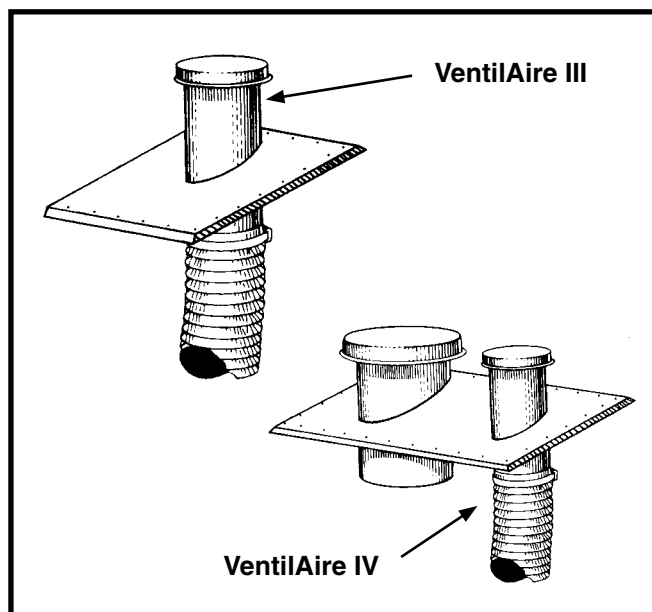

Figure 5. VentilAire III & IV
The Ventilaire air quality accessory packages are available to meet the ventilation requirements as outlined in H.U.D. Standard Part 3280.103 (b) (2). These packages introduce outdoor air into the living space during furnace blower operation. The VentilAire IV also serves to exhaust moist and/or hot air from the attic space. See **Figure 5** for typical installation. Complete installation instructions are supplied with each air quality package.